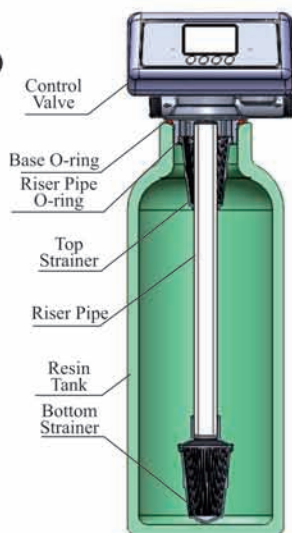

Figure1-1
- ① The filter should be located closely to drain.
- ② Ensure the unit is installed in enough space for operating and maintenance.
- ③ The unit should be kept away the heater, and not be exposed outdoor. Sunshine or rain will cause the system damage.
- ④ Avoid installing the system in circumstance of acid/alkaline, magnetic or strong vibration, because above factors will cause the system disorder.
- ⑤ Do not install the filter, drain pipeline or overflow pipe in circumstance where temperature may drop below 5°C, or above 50°C.
- ⑥ Install the system in the place where with the minimum loss in case of water leaking.
① Install control valve
a. As the Figure1-1 shows, select the relevant riser pipe, glue the riser pipe to the bottom strainer and put it into the mineral tank, cut off the exceeding pipe out of tank top opening and make external rounding.